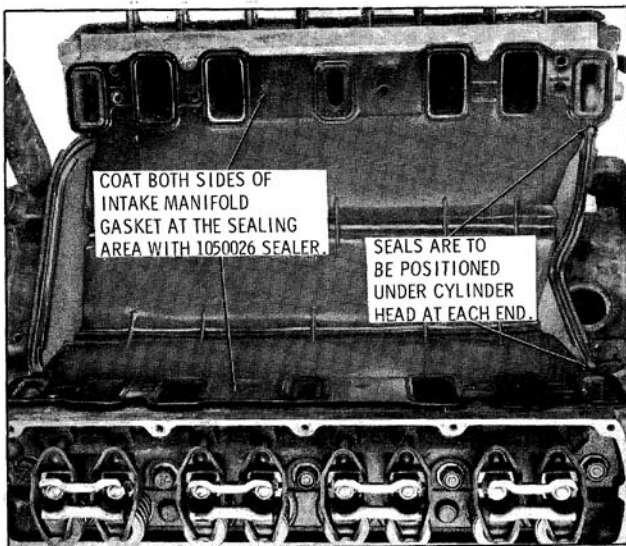

Fig. 3-52 Intake Manifold
2. Install end seals, being sure that ends are positioned under cylinder heads as shown in Fig. 3-52.